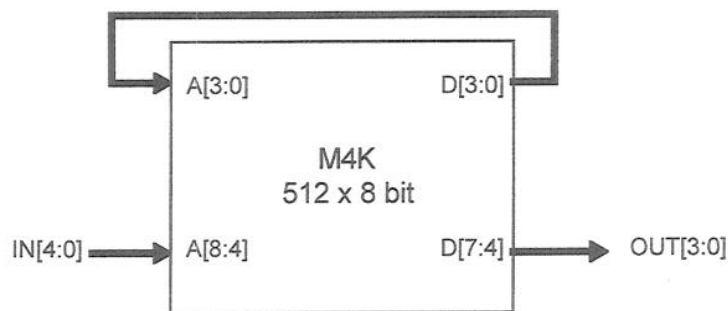

Figure 3.1
3. Figure 3.1 shows the schematic of a 5-input, 4-output finite state machine (FSM) implemented using a 4k bit memory block (M4K) in Altera's Cyclone II FPGA. The input  $IN[4:0]$  to the FSM is one-hot encoded. The M4K is configured as a 512 x 8 ROM with registered address inputs. The contents of some of the ROM locations are shown in Figure 3.2. All the other locations contain the value 0.